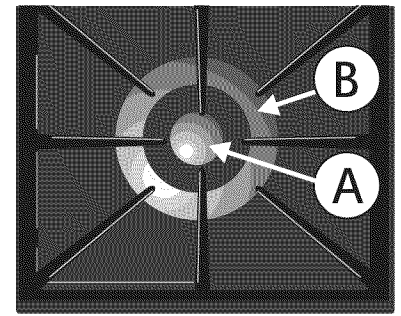

Figure 1
5. When the burner is lit, continue to turn the control knob **counterclockwise** between the HI position and the MED position to adjust to the desired flame size for both burners together (figure 1). **DO NOT** cook with any of the surface control knobs in the LITE position (The electronic ignitor will continue to spark if the knob is left in the LITE position).
#### Simmering Operation (Figure 1; Zone A)